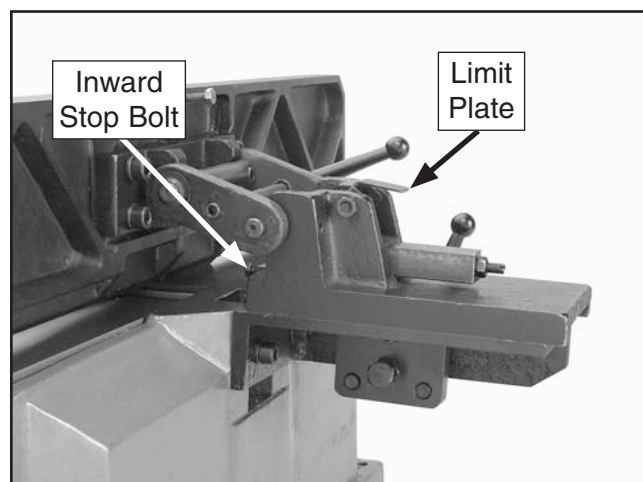

Figure 29. Adjusting the inward stop.
7. Adjust the inward stop bolt (see **Figure 29**) until it contacts the fence at precisely 45° inward, then tighten the jam nut (where the bolt meets the bracket assembly) while holding the stop bolt in place. Replace the limit block and set the limit plate.